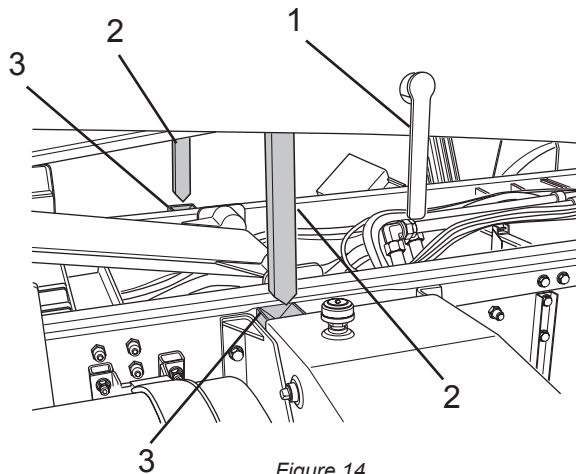

Figure 14
4. Move the bracket that holds the prop lever up to the rear of the refuse vehicle and swing the prop lever (Figure 14, Item 1) down.
5. Position the props (Figure 14, Item 2) above the pockets (Figure 14, Item 3) on the chassis frame.